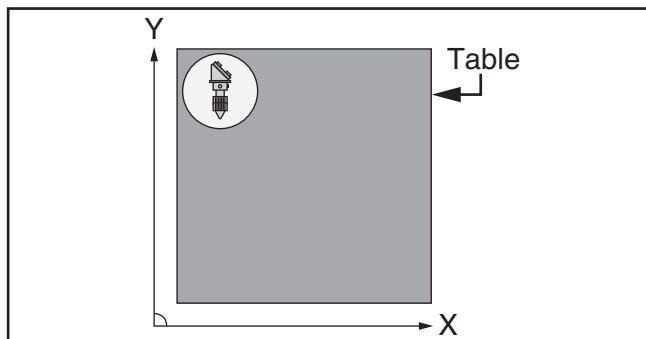

Figure 106. Laser head assembly in upper left corner of table.
11. Move primary laser head assembly to upper left corner of table (see **Figure 106**).